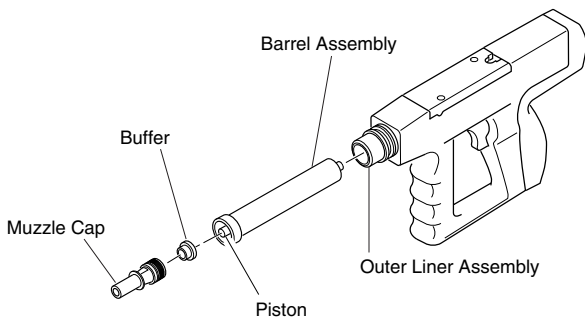

Figure 24 - Inserting Barrel Assembly into Outer Liner Assembly
4. Firmly insert barrel into outer liner assembly with slot side down (see Figure 24).